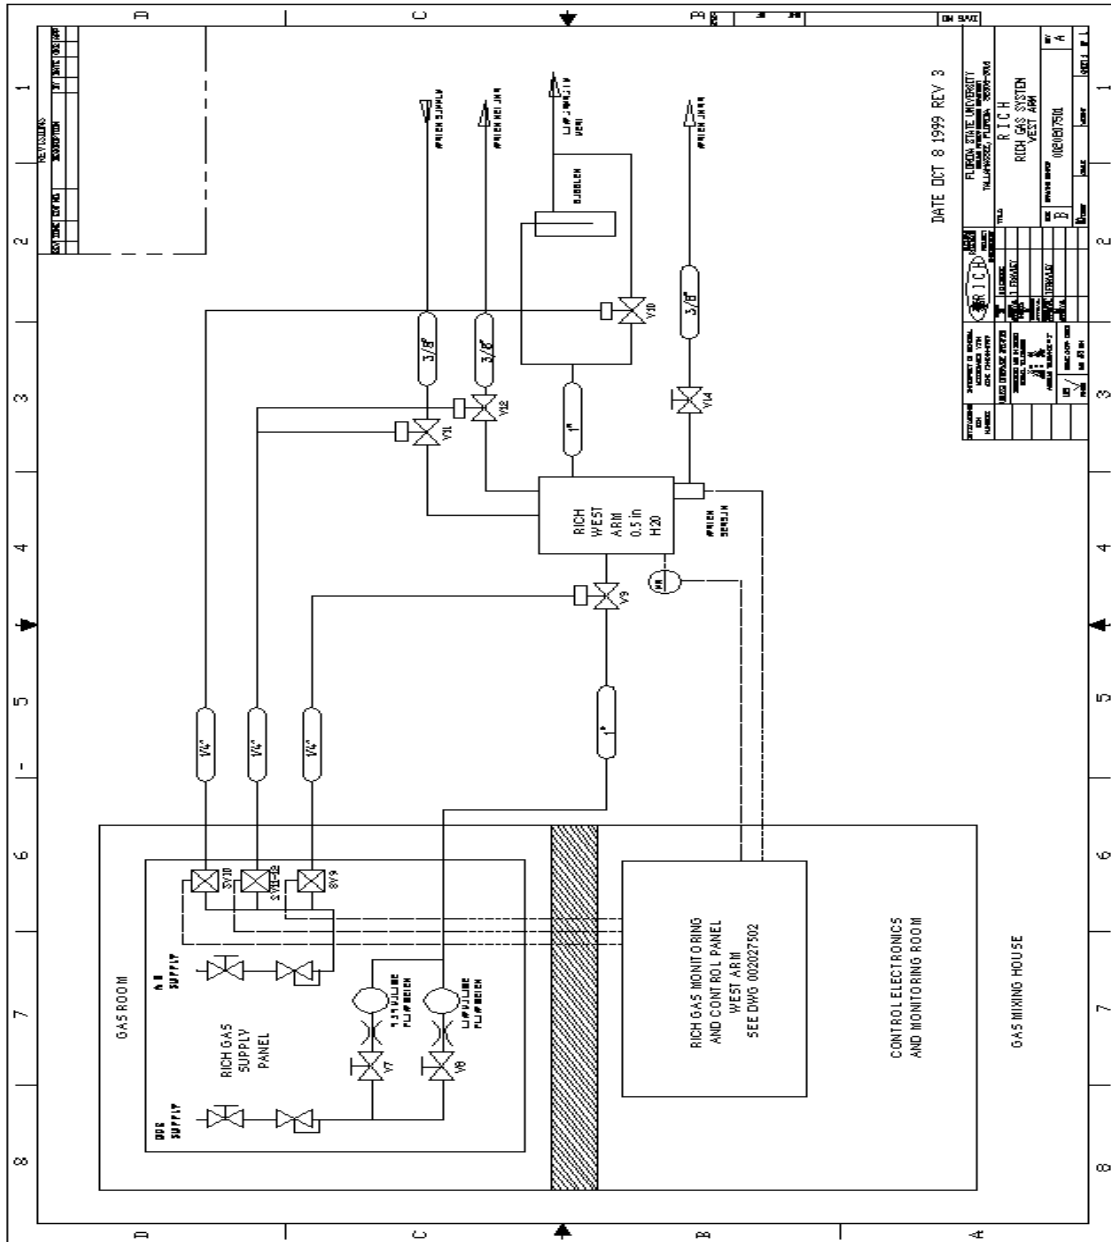

Fig. 1 RICH west arm gas system schematic
Refer to fig. 1 for a flow control diagram for the RICH west arm, and Fig. 2 for a flow control diagram for the RICH east arm. All gas system controls and readouts for the RICH are located in the PHENIX gas mixing house. The two RICH arms may be purged at the same time.
Refer to fig. 1 for a flow control diagram for the RICH west arm, and Fig. 2 for a flow control diagram for the RICH east arm. All gas system controls and readouts for the RICH are located in the PHENIX gas mixing house.
1. Figure 1 - RICH gas system flow control schematic for the west arm.